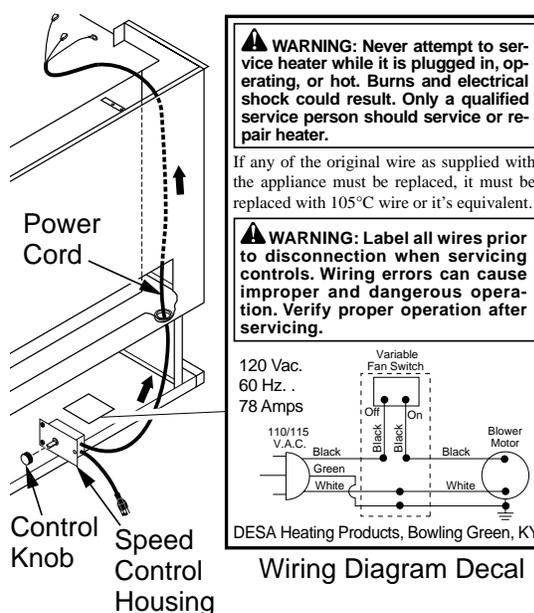

Figure 18 - Routing Power Cord
14. Using two screws provided in blower kit, mount blower speed control housing to mounting tab in left side of lower control compartment (see Figure 18).
17. Peel off the backing paper and stick the supplied wiring diagram decal on the stove floor as shown in Figure 18.